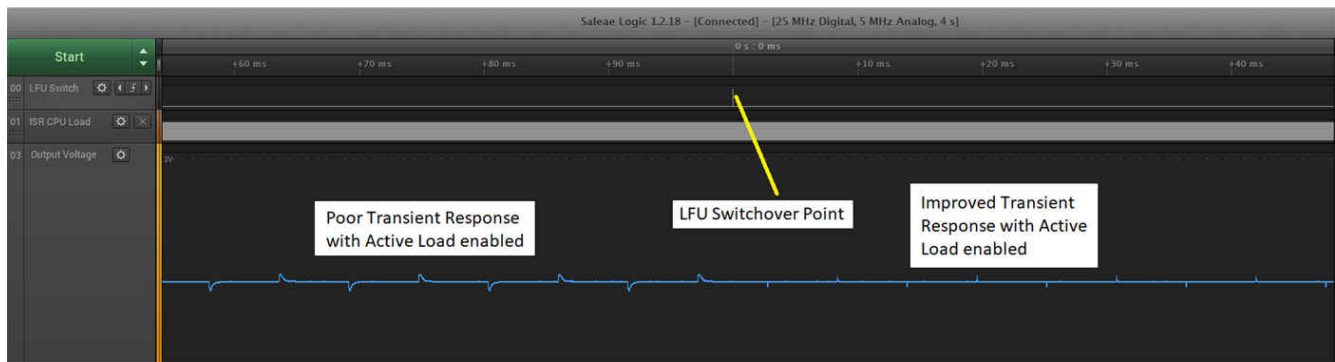

図 3-9. LFU Switchover with Transient Performance Improvement – Control Loop on CPU
12. 図 3-9 shows another LFU use-case where control loop parameters are updated between firmware versions. In practice, this can be done in real-time using the Compensation Designer, but this use-case is included for illustrative purposes. This corresponds to the **buck_F28004x_lfu_controlloop** project. In this project, the BANK0_FLASH build configuration contains coefficients that correspond to a smaller gain, $K_{dc} = 4000$. The BANK1_FLASH build configuration contains coefficients that correspond to a larger gain $K_{dc} = 38904$ (refer to the function `BUCK_initControlLoopGlobals()` in `buck.h`). This leads to poorer transient performance with the BANK0_FLASH build configuration and more optimal transient performance with the BANK1_FLASH build configuration, when Active Load is enabled. If the device already contains the Application files corresponding to the **buck_f28004x_lfu** project (or even the CLA side), this update can be run using the same LFU commands as in the previous section, except with the updated .txt names corresponding to this project as shown in 表 3-1. In the **buck_f28004x_lfu_controlloop** project, Active load is enabled in `main()` on a device reset (not after an LFU switch), so it is important to reset the device after running the LFU, so that this initialization is performed. **The device reset needs to be done only once.**